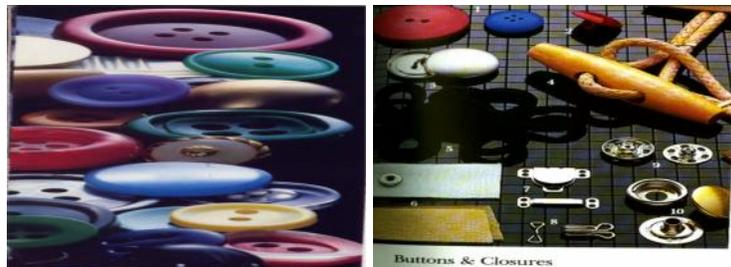

Fig.2-3: Buttons and closures
- x) **Jumbo snaps:** These are fixed by appropriate snap fitting tool on the outside of a garment for a decorative effect (**Fig.2-3**).